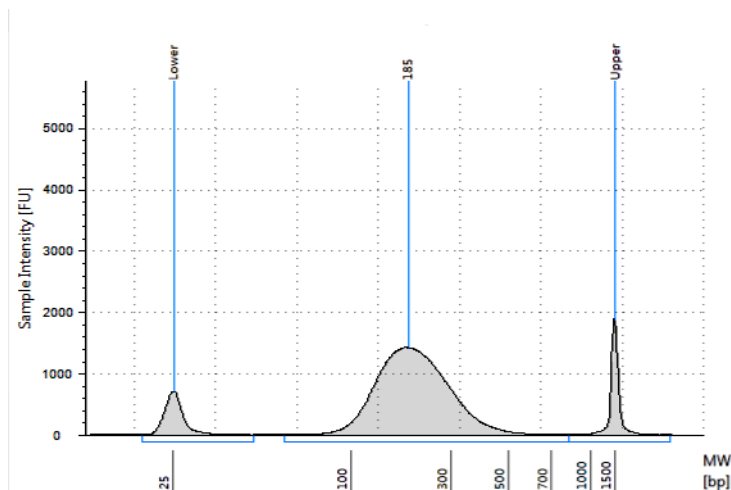

Figure 3 Analysis of sheared DNA using a D1000 ScreenTape.
- 3 Verify that the electropherogram shows a DNA fragment size peak between 150–200 bp. A sample electropherogram is shown in Figure 3.